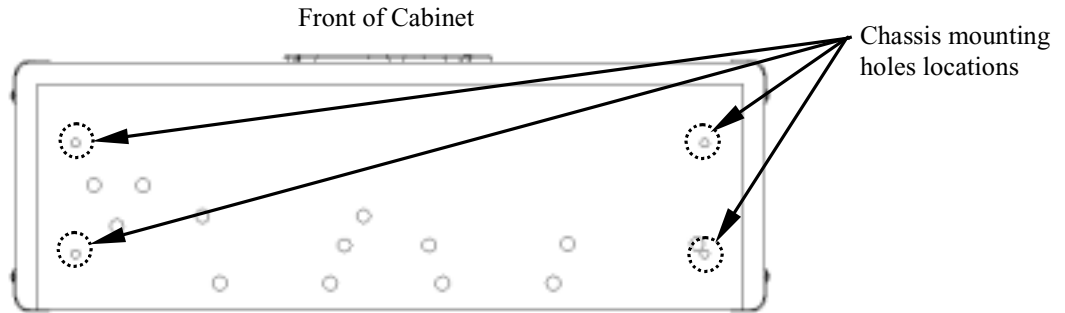

Figure 27 (top view)
- a. From inside the Cabinet, poke the Chassis mounting holes and surface covering so they can be easily located on the outer surface. See figure 27.